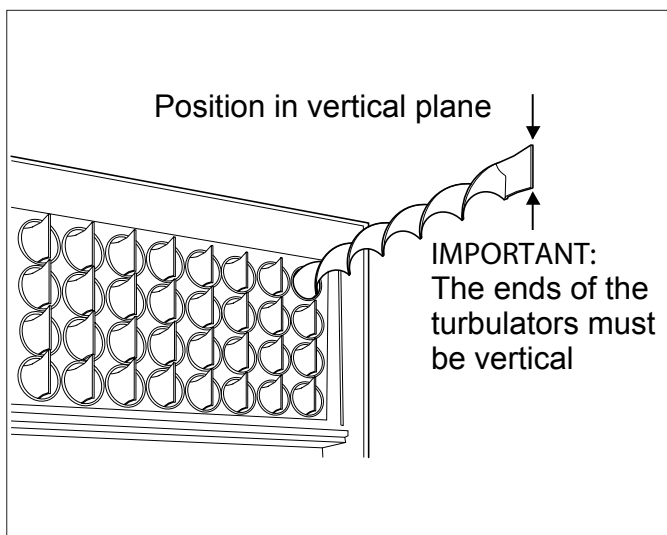

Figure 11-3: Turbulators (all models)
7. Pull out the spiral turbulators from the heat exchanger tubes. See Figure 11-3. Clean the turbulators using a stiff brush.